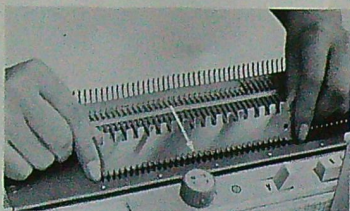

Fig. 1
1. Release all needle selector buttons by pushing down the "O" button. Set the reverse lever onto "A" and push back all needles in position "A" (resting position) (See Fig. 1)